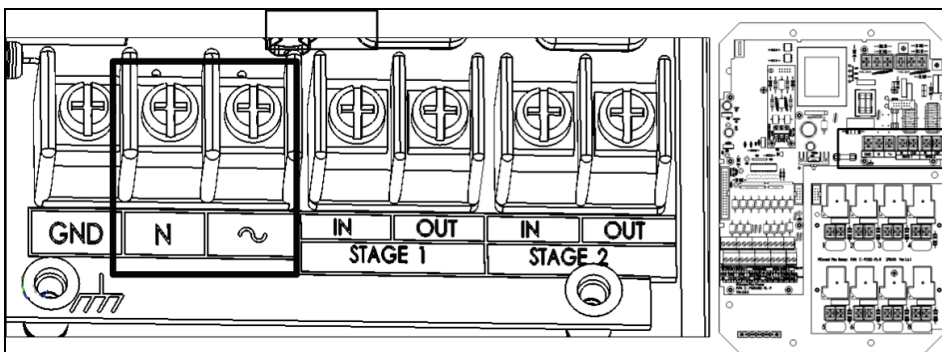

Figure 4: Input power ports
5. Using the voltmeter, place the probes on \sim and **N** (Figure 4). The voltmeter displays the Farm Master voltage power input.